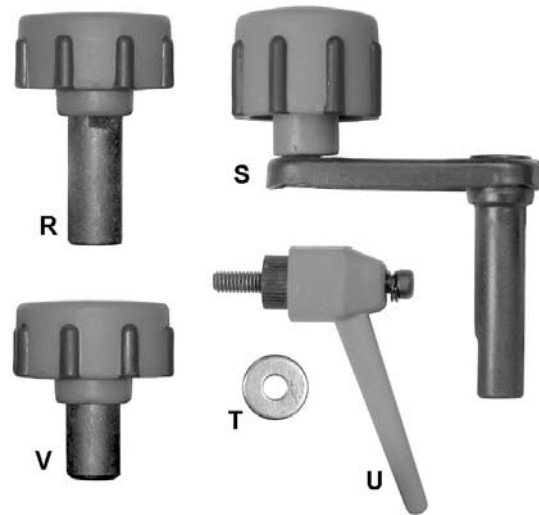

Figure 3 – Knobs and Handles
**Note:** The shaft length of each lock knob (refer to Figure 3) is different. Be sure to install each in the correct location.